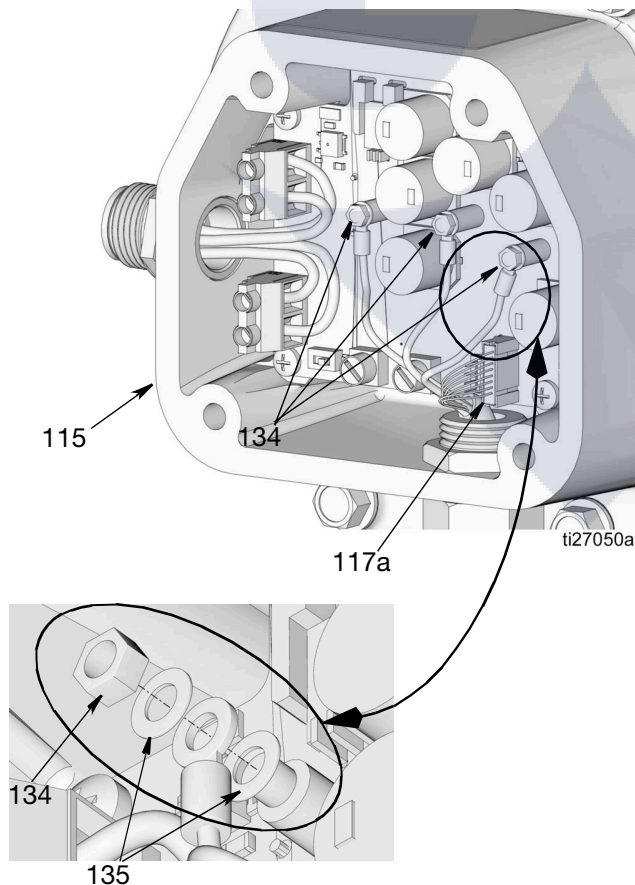

FIG. 66
6. Remove nuts (134) as shown in FIG. 66. Remove washers (135) and motor wires from terminals.